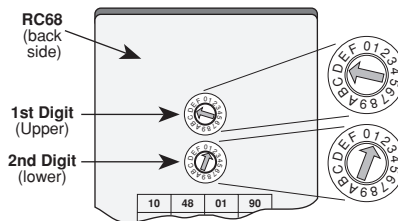

Fig. 3 Setting the RC68 Code Switches
1. Rotate the upper switch, on the rear of the RC68 to D. Refer to **Fig. 3**.